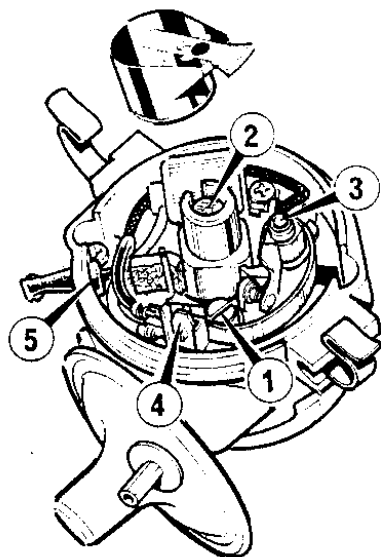

Figure 3 Contact breaker adjustment
3. Slacken the slot headed screw (**Figure 3**) in the contact plate and adjust until the gap is 0.38mm (0.015 in). The gap is measured with a suitable feeler gauge and pressure should be applied to the points, with the feeler gauge inserted between them whilst the screw is tightened.